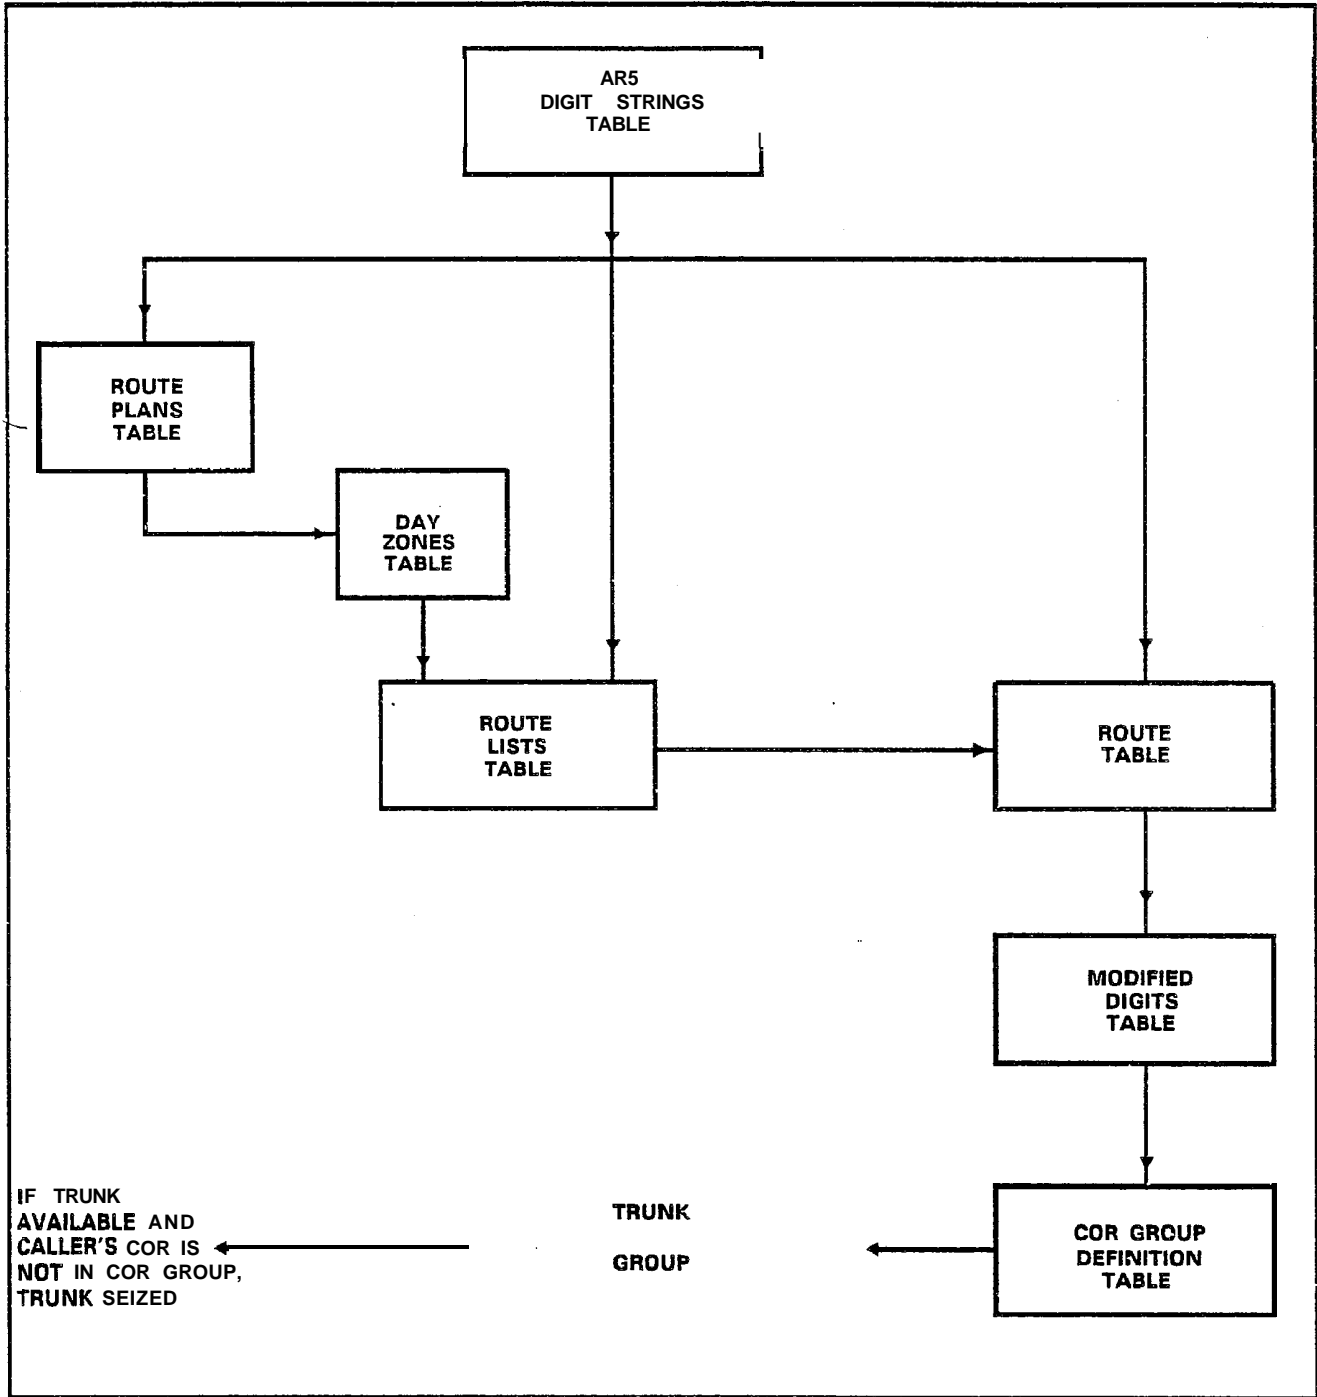

Figure 5-1 ARS Table Hierarchy
5.02 The hierarchy for the tables is shown in Figure 5-1. This hierarchy is followed by the system in deciding which routes to select, and which users are toll-restricted on the selected routes. The following paragraphs describe the layout and fields of each table. Refer also to Section MITL9108-093-206-NA, Installation Forms and Section MITL9108-093-210-NA, Customer Data Entry, for further information. The way in which the tables combine to form the ARS network is described in general in Part 6, and in the scenario given in Part 7.